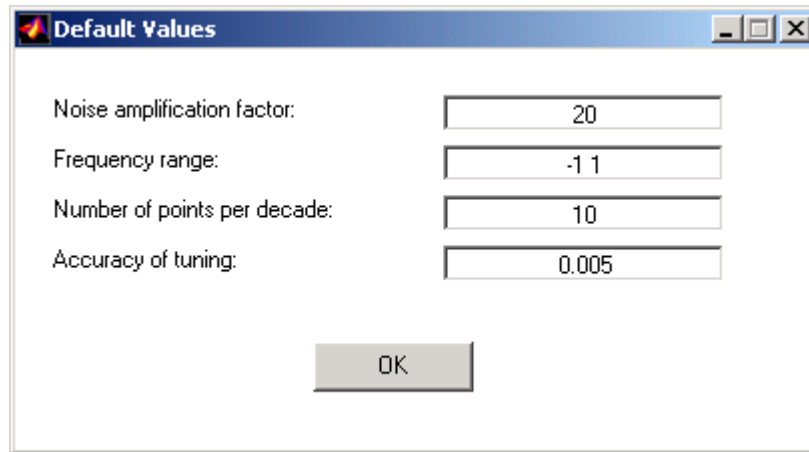

Figure G.8 Default values.
- Default values: You can enter values for maximum allowed noise amplification, frequency range for closed loop frequency response calculations, the number of points per decade used in the calculation, and the desired accuracy of the calculation. Any number larger 10^5 is treated as infinity during calculations. The default values are shown in Figure G.8. Any of these may be changed. The frequency range is in powers of 10 (e.g., 0.1 to 10) for Figure G.8.